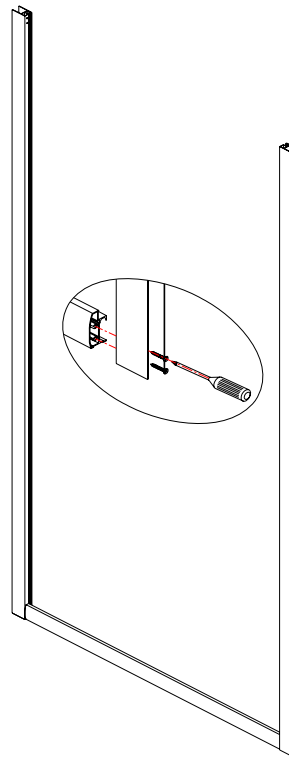

Fig 5
4. Secure bottom **Guide rail (03)** and glass profile with **Round head screws ST4.2x25 (10)**. See Fig 5 for details. Repeat the same for upper **Guide rail (3)**.